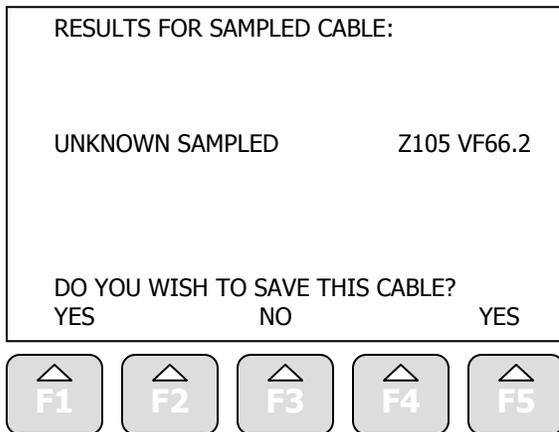

Figure 1
Step 3 – Press ENTER again to go to the Length Entry screen. First enter the sample’s physical length in feet or meters (meters enters in nnnn.nnn format to include mm) and press ENTER. Then, if prompted to do so, enter the “inches” and press ENTER. The TDR now calculates the VF. The results screen will appear as shown in Figure 1 with both the Impedance and VF displayed.